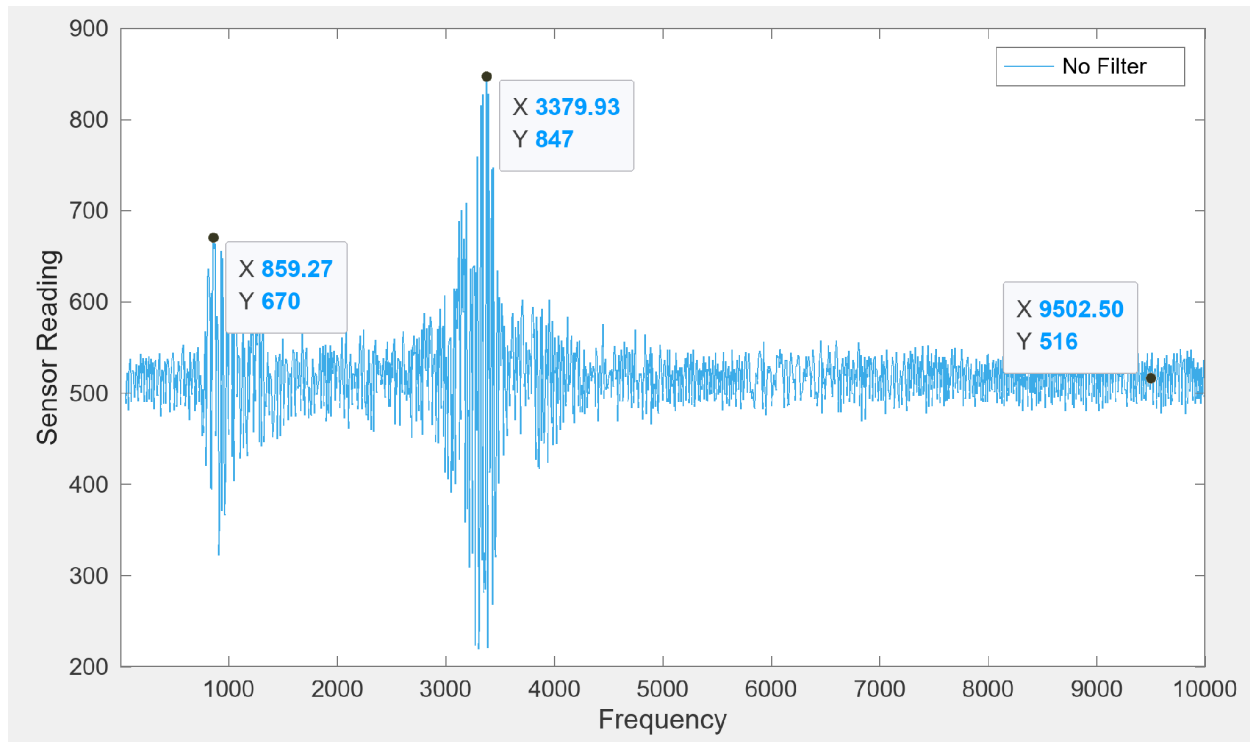

Fig. 2
When it's all set up, use the function generator to do a frequency sweep from 50 Hz to 10k Hz in 30s (linear frequency increase). **Log and the sensor readings**. The sensor reading collected will be similar to the one shown in Fig. 2. You need to plot the logged sensor readings in the saved csv file using the script you wrote in the prelab. **Note that you can take a quick look at the data you get by plotting a rough graph and leave the other time-consuming plotting adjustments required by submission after the lab. This way, you can save time for in-lab experiments.**
- Submit a figure similar to Fig. 2 when you do a frequency sweep without analog filtering. Once you complete this figure, please ask the TA to check it off during lab sessions or open hours.
- You need to convert the X axis from time to frequency of the signal as shown in Fig. 2. The X axis is approximately ranging from 50 to 10k Hz.
- You also need to clearly label on the figure the resonance points generating the largest positive deviations as well as a point that represents no-attack sensor readings, as shown in Fig. 2. (Although Fig. 2 has two such resonance points, you may have more and fewer.)
You need to approach output biasing by adjusting the frequency of your injection signal. Note you may not get complete DC outputs due to the instability of the cheap microcontroller's ADC. Try to inject signals as close to DC as possible. It is recommended that you start with a frequency close to the largest resonant frequency you found in question 1. For example, you can start with ~3300 Hz by referring to Fig. 2.